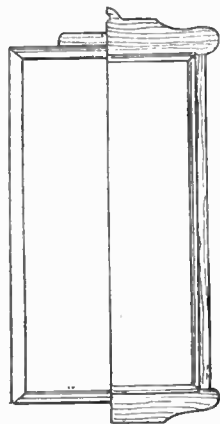
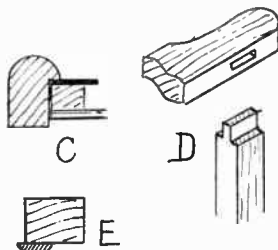

Fig. 1—Two frame suggestions
Fig. 5—Rebate and joint details
Fig. 1 shows two examples
As stated at the commencement of this article, two examples of simple but suitable framing are given in Fig. 1. The left-hand side one is a frame of half-round moulding, of the usual picture frame style. The rebate must be deep enough to receive frame, glass and backing, as well as, as in Fig. 5 (C), say, $\frac{3}{4}$ in. deep, and can be in black or gold, both, perhaps, equally suitable.